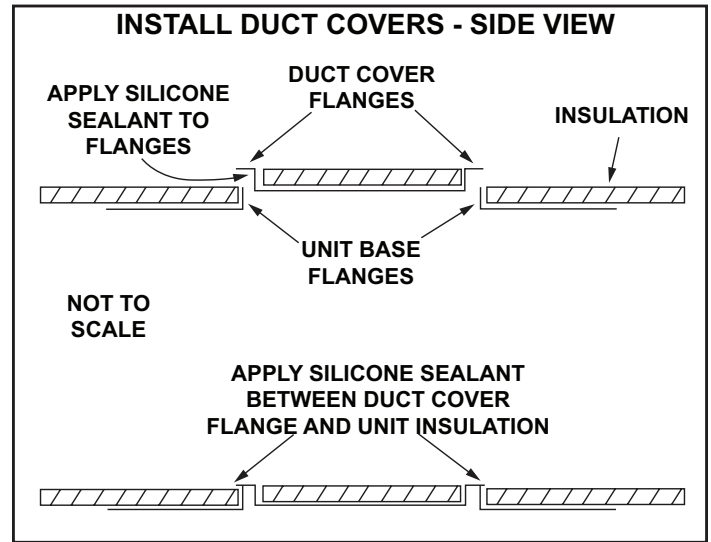

Figure 3
3. Locate return air cover included in kit. Place a bead of silicone sealant on the underside of the return air cover flanges. Position the cover over the down flow return air opening. (See Fig. 3.) Secure covers with self-drilling screw in at least 4 places.